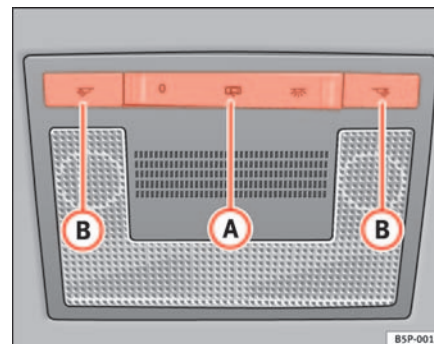

Fig. 81 Detail of the roof:
The switch ⇒ fig. 81 (A) is used to select the following positions:
Turn the knob to the position O ⇒ page 115, fig. 81 .